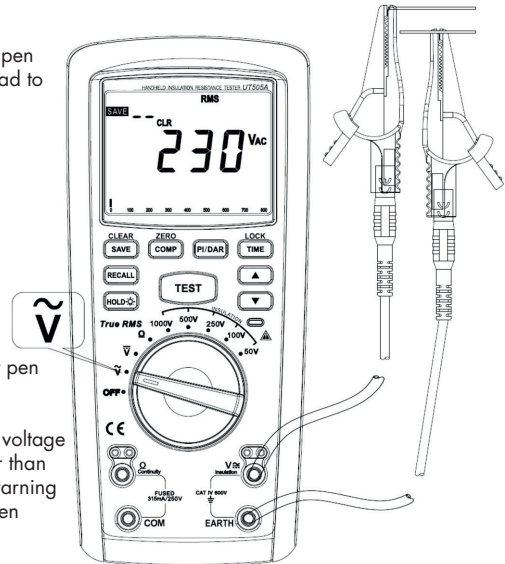

FIGURE 4
1. Measurement of AC voltage (See Figure 4)